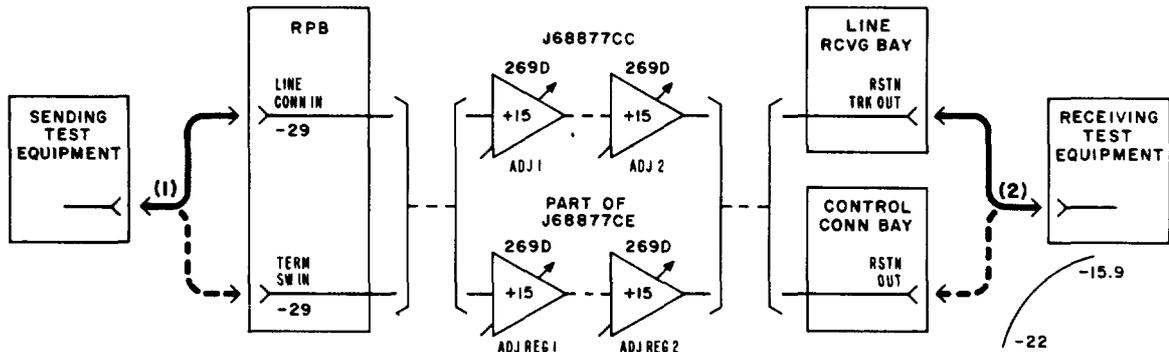

Fig. 3—Restoration Trunk In for Regular L4 Line
This trunk circuit connects the restoration patch bay to a line receiving bay for a regular L4 line or to a control connecting bay as shown in Fig. 3.
4	Make patches designated (1) and (2) in Fig. 3.
13	Make patches designated (1) and (2) in Fig. 3.